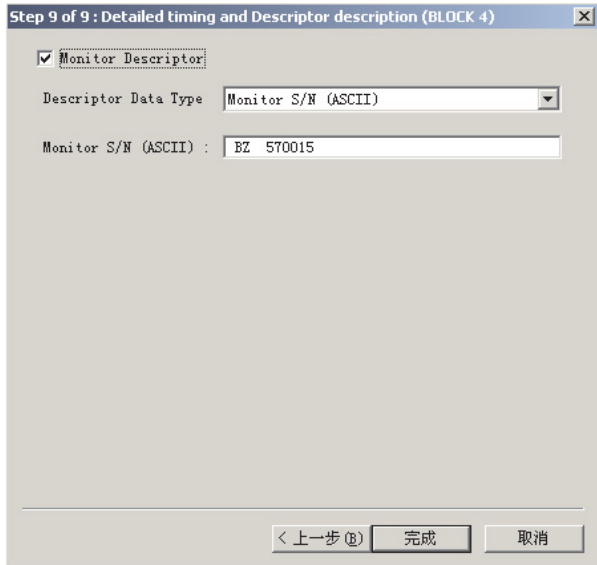

Fig. 34
8. Click Next , bring up Fig. 34.